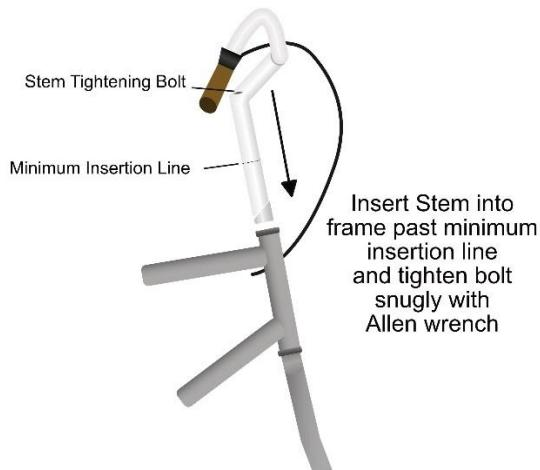

Figure 6 – Attach Handlebars to Frame
- (1) **Insert the Stem into the frame past the minimum insertion line and then tighten the bolt snugly with an Allen wrench (See Figure 6).**
- **Check Alignment** – make sure handlebar stem is parallel to the bike's center line and clamped tight enough so that you can't twist it out of alignment. (See Figure 6 on page 12.)